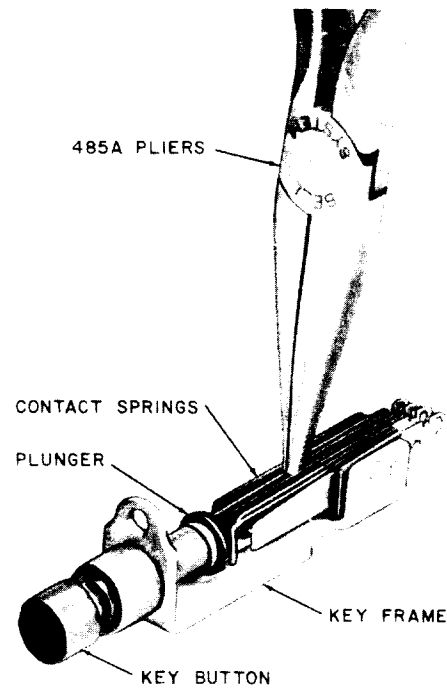

Fig. 18—Method Of Adjusting Plunger Or Contact Springs
(3) **547-, 576-, 579-, 582-, 583-, 614-, 615-, 624-, 630-, and 650-Type Keys:** If the plunger is clean and lubricated in accordance with (2) but fails to return to normal after operation and release, proceed as follows: On the 547-, 624-, and 650-type keys, check the tension of the plunger springs and make adjustment required using the 485A pliers as illustrated in Fig. 18. On the 576-, 579-, 582-, 583-, 614-, 615-, and 630-type keys, check both the plunger springs and the helical spring. Adjust the plunger spring tension as required using the 485A pliers. If the helical spring is broken or damaged, replace it with a new spring as covered in Section 032-724-801.♦
(4) Trouble due to springs touching each other which are designed never to make contact is caused either by springs being kinked, bowed, or by excessive follow. Straighten the springs or reduce the excessive follow as required with the 485A pliers.
(5) **Contact Separation:** If the separation between contacts on these keys is not satisfactory, adjust as required using the 485A pliers. Make adjustments close to the point where the spring leaves the clamping plate and insulator as shown in Fig. 18.
(6) Contact Pressure, Contact Follow, Contact Sequence, and Plunger Spring Pressure:
Foreign material wedged between the contact springs may prevent the springs from making contact when the plungers are depressed. Remove the foreign material with a toothpick which has been dipped in KS-7860 petroleum spirits. Do not use the same toothpick for more than one operation. If the pressure requirement is still not met, proceed as follows: To adjust for contact pressure, contact follow, contact sequence, and plunger spring pressure, adjust the springs with the 485A pliers close to the point where the springs leave the clamping plate and insulators as shown in Fig. 18.
(1) If the key fails to meet this requirement, examine the helical spring to determine whether it is broken or distorted in any way and, if necessary, replace it as covered in Section 032-724-801.
(2) If the key fails to meet the maximum plunger operate pressure requirement, examine the plunger and plunger springs to determine whether a gummy substance has formed on them. If necessary, dismantle the key and clean the plunger and plunger springs as covered in 3.02. If after cleaning, the key still fails to meet the requirement, it may be necessary to reduce the tension of the contact or plunger springs with the 485A pliers.
(3) If the key fails to meet the minimum plunger operate pressure requirement, it is an indication that the plunger spring tension is insufficient. In this case, adjust the spring toward the center of the key using the 485A pliers as shown in Fig. 18. Check that requirement 2.04(c) is met.